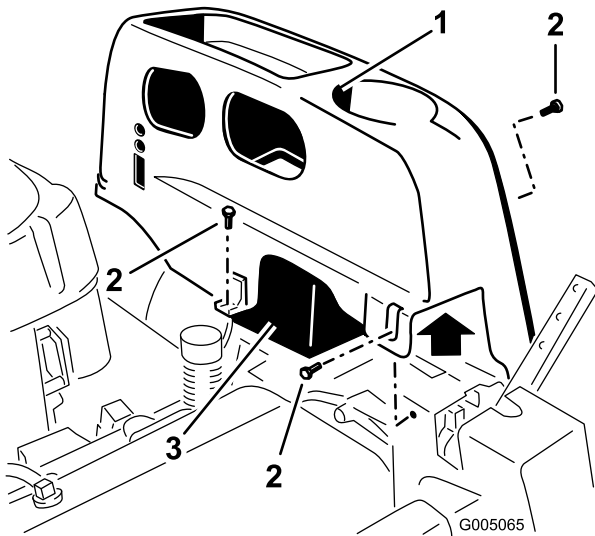

Figure 27
2. Remove the TORX® head fasteners (T25) securing the left cover to the frame as shown in Figure 27.